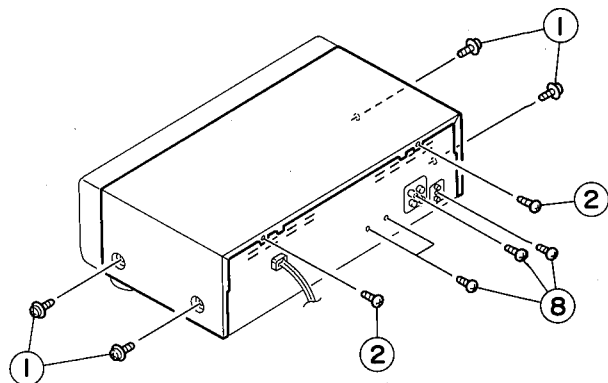

Fig. 2 - 1
■ Enclosure Section (See Fig. 2 - 1)
◆ Front panel assembly (See Fig. 2 - 2 to 2 - 3)